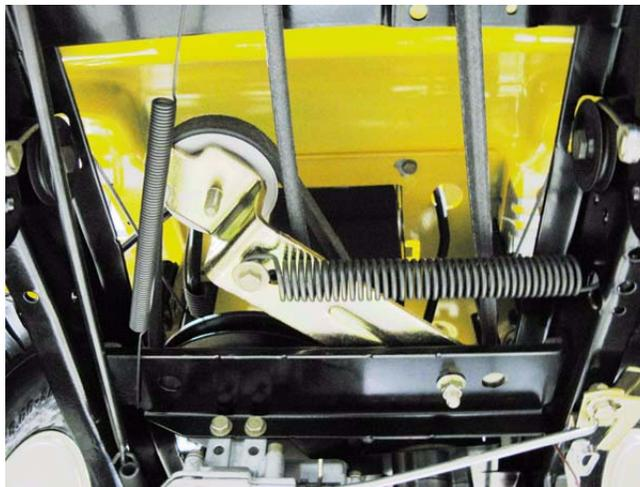

Figure 6.4
- 4. Check the drive belts. See Figure 6.4.